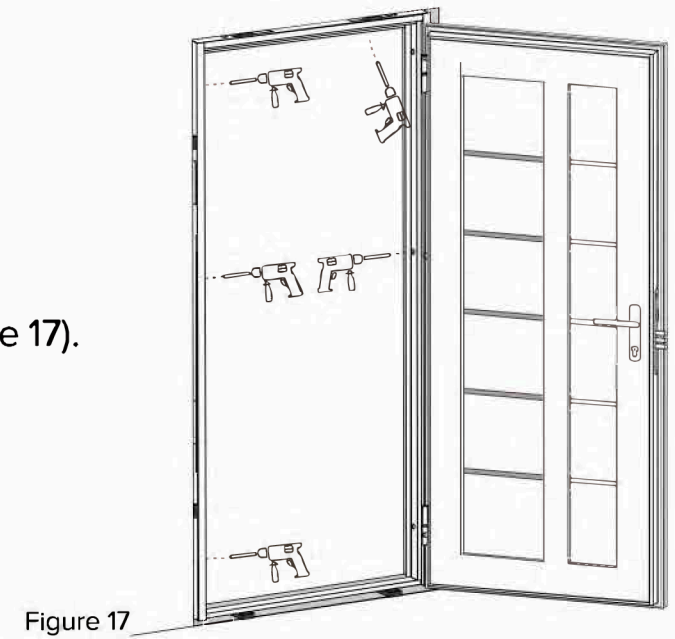

Figure 17
3.14. Drill holes in the wall through the remaining holes (on the left/right) (figure 17).